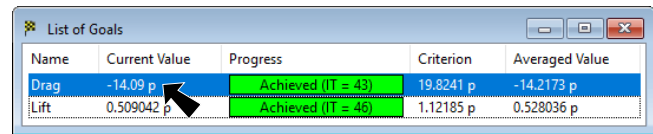

Fig. 17
Step 2. When the calculation is done view the drag in the Solver, click Insert Menu > Goal Table, **Fig. 17**. Our drag was **-14.09**.